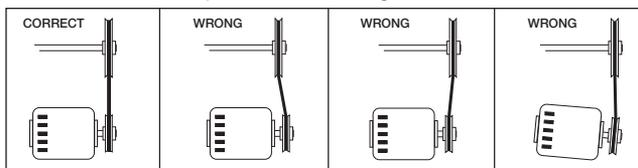

Figure 11
- 6. If adjustments are made, it is very important to check the pulleys for proper alignment. Misaligned pulleys lead to excessive belt wear, vibration, noise and power loss, see Figure 11.